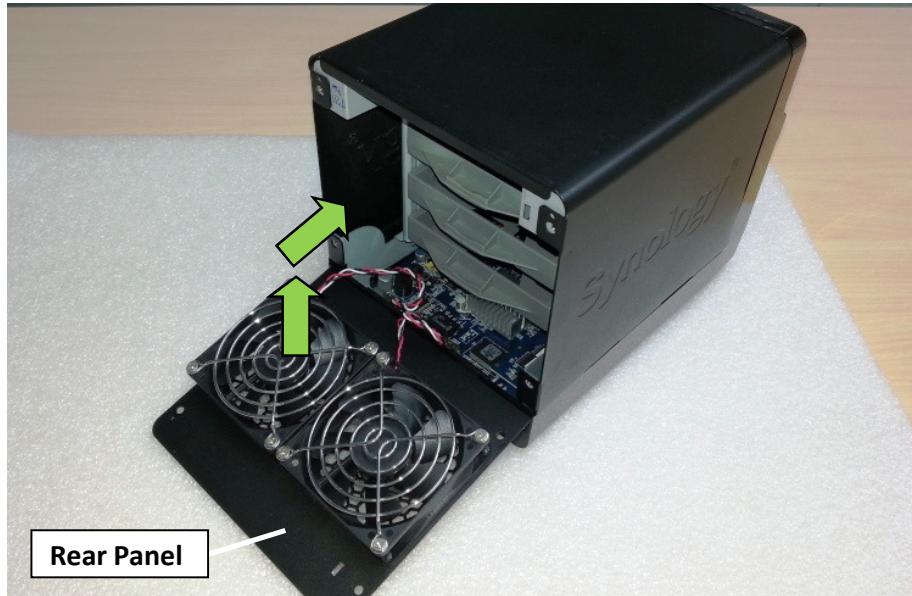

Fig. 85
3.2.13 Flip up the rear panel to close it. (Fig. 85)